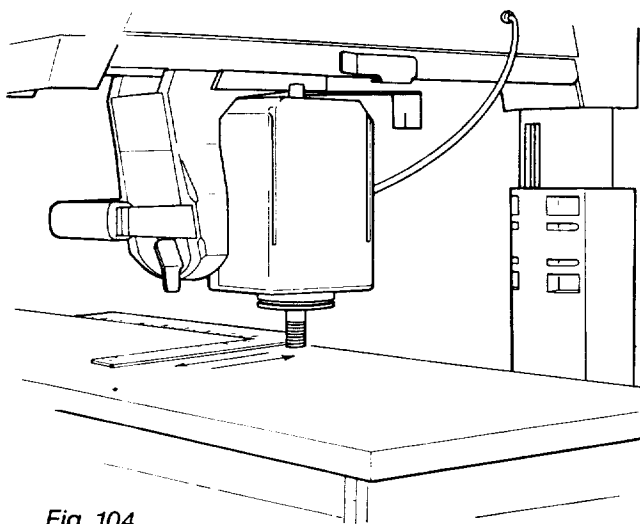

Fig. 104
7. Lay a framing square on the *front table* with the long edge along the back of the *table* and the short edge alongside the *motor arbor*. (Figure 104)
8. Move the framing square toward the *motor arbor* until the arbor and square touch each other. (Figure 104)
If the *motor arbor* moves away from the square or tries to “walk” on top of it, go to step 11. (Figure 104)